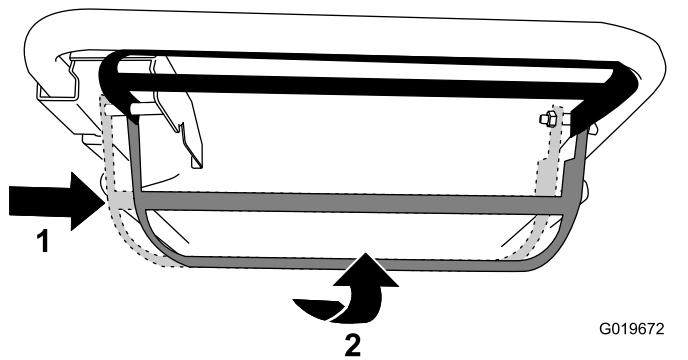

Figure 16
- To operate the self-propel drive and engage the blade:** Move the blade-control bar all the way to the right and raise it to the handle (Figure 16).